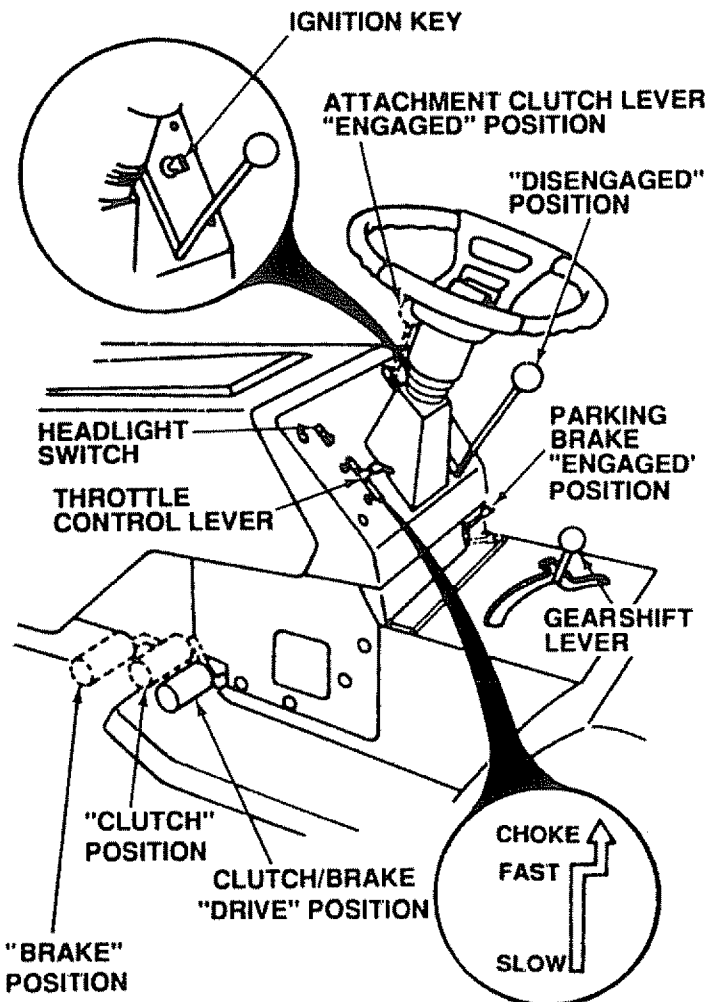

FIGURE 7
- Push clutch-brake pedal into full "BRAKE" position. Keep your foot on pedal (Fig. 7).
- Move throttle control lever (Fig. 7) past "FAST" to the "CHOKE" position.